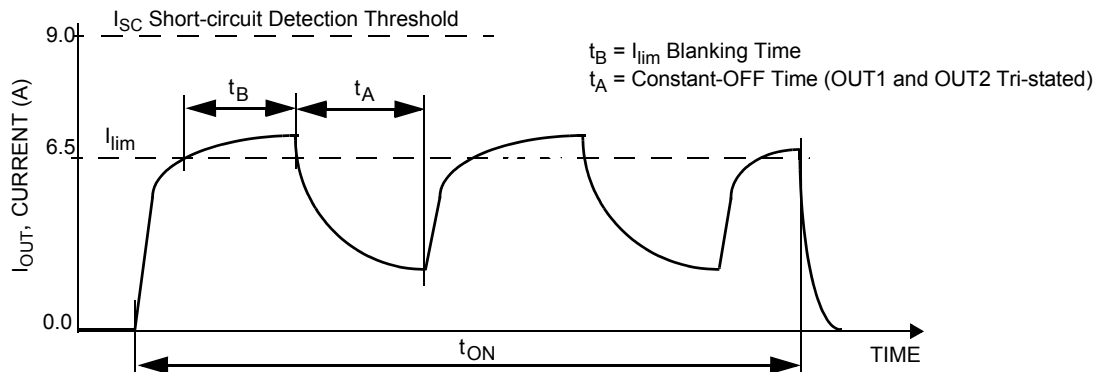
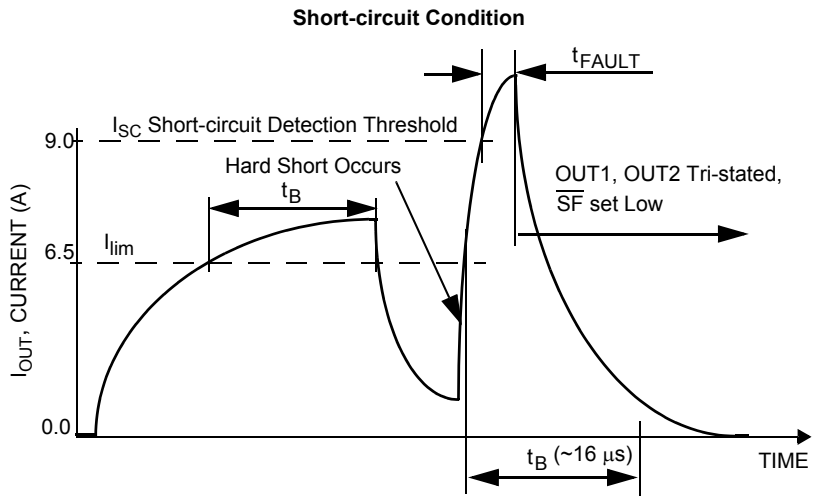
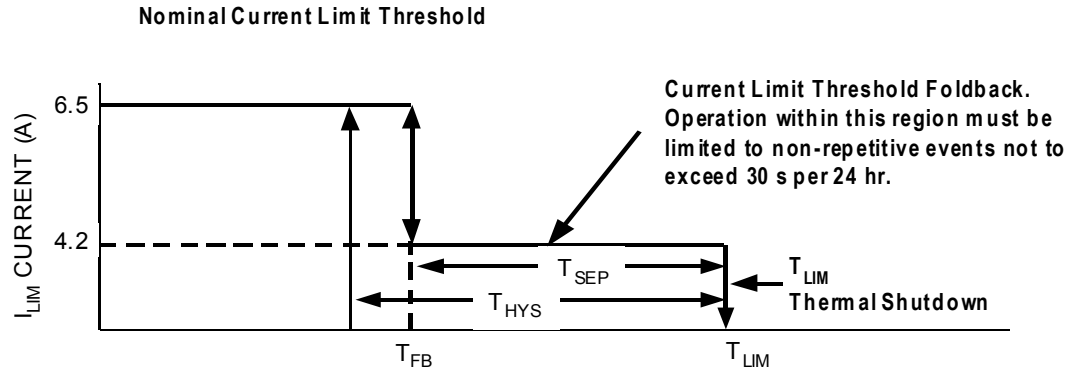

Figure 7. Current Limit Blanking Time and Constant-OFF Time
Figure 8. Short-circuit Detection Turn-OFF Time t_{FAULT}
Figure 9. Output Current Limiting Foldback Region
28. Load currents ramping up to the current regulation threshold become limited at the I_{LIM} value (see Figure 7). The short-circuit currents possess a di/dt that ramps up to the I_{SCH} or I_{SCL} threshold during the I_{LIM} blanking time, registering as a short-circuit event detection and causing the shutdown circuitry to force the output into an immediate tri-state latch-OFF (see Figure 8). Operation in Current Limit mode may cause junction temperatures to rise. Junction temperatures above $\sim 160\text{ }^{\circ}\text{C}$ will cause the output current limit threshold to "fold back", or decrease, until $\sim 175\text{ }^{\circ}\text{C}$ is reached, after which the T_{LIM} thermal latch-OFF will occur. Permissible operation within this fold back region is limited to non-repetitive transient events of duration not to exceed 30 seconds (see Figure 9).